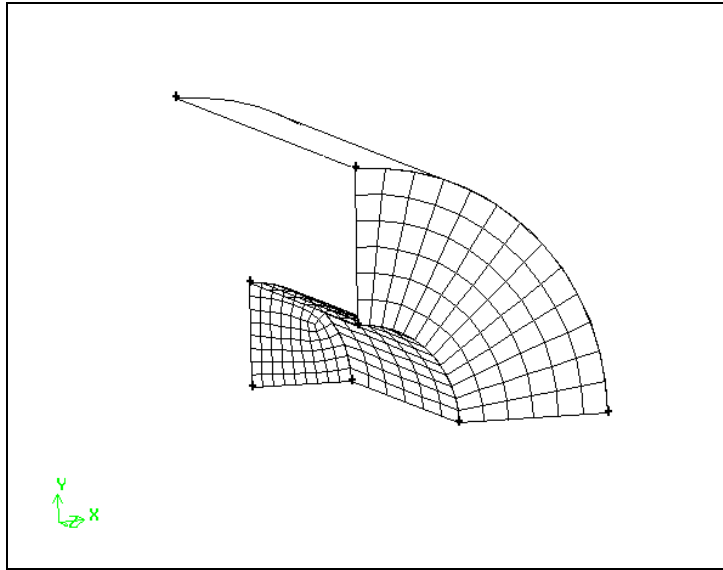

Figure 4-30: Mesh on face at entrance of burner
*The face will be meshed as shown in Figure 4-30.*